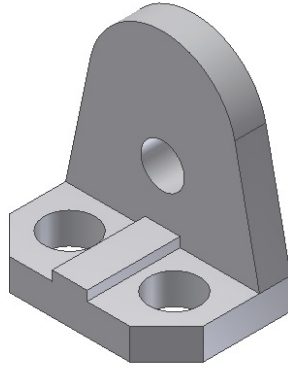

Figure 5-87 *Final model for Tutorial 1*
4. Clear the **Check to terminate feature on the extended face** check box and then choose the **OK** button. Alternatively, choose **OK** from the mini toolbar. The final model for Tutorial 1 is shown in Figure 5-87.